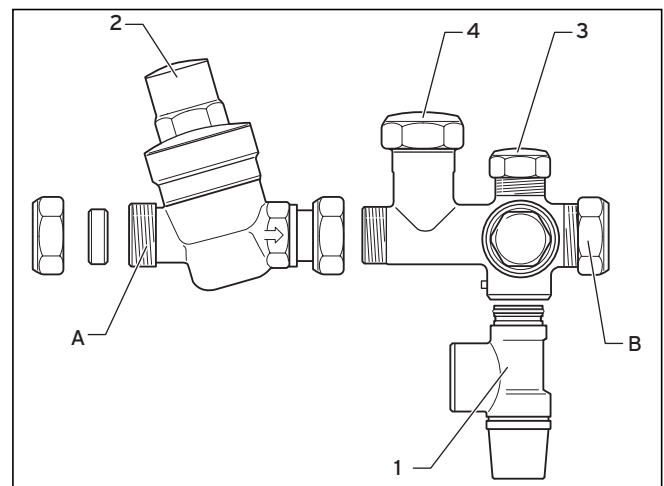

Fig. 5.16 Water control pack
- Connect both parts of the water control pack as illustrated in Fig. 5.16.
- When installing the valves, make sure they are aligned in such a way that the 15 mm connection of the expansion relief valve (Fig. 5.16, pos. 2) can be connected to the tundish.
- Install the discharge pipe of the expansion relief valve (Fig. 5.16, pos. 2) so that it has a constant outward slope and ends at a safe, visible point where there is no risk of freezing.
- Test the expansion relief valve (Fig. 5.16, pos. **2**) regularly to avoid calcification.
- Connect the solar cylinder to the cold water supply (Fig. 5.16, pos. **B**).
To ensure an optimum performance of the solar cylinder, in particular in installations in which the pressure-controlled cold water outlet (Fig. 5.16, pos. **5**) is used, copper pipes with a diameter of at least 22 mm should be used for the pipe from the main stop valve of the building to the solar cylinder.
- Screw the expansion vessel directly onto the water control pack (Fig. 5.16, pos. **4**) via the connection intended for this purpose or
- Establish (if necessary) the connection to the pressure-controlled cold water connection of the water control pack (see **5**, Fig. 5.16).
In areas with high water pressure (4 bar or more), a bath or shower mixer valve can also be connected to the pressure-controlled cold water connection (4, Fig. 5.16) of the water control pack to ensure the pressure of the hot and cold water supply to the mixer valve is about the same. The cold water supply for all other connections should be installed in front of the water control pack in the cold water supply to the solar cylinder by means of a T-piece.